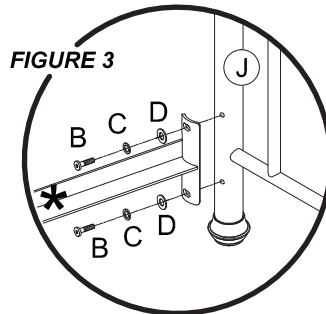

FIGURE 3
Attach each Leg Extension (I) to each post on Headboard Panel (G). Once in place, attach Bed Frame (*not included) to each extension using 2 Long Allen Bolts (A), 2 Metal Washers (D), 2 Spring Washers (C) & 2 Hex Nuts (E) per each side. Tighten all bolts only using Allen Wrench (F) provided. See **Figure 3**.
Attach Adapter Plate (I) to each Bed Post (H) using 2 Long Allen Bolts (A), 2 Spring Washers (C), 2 Flat Washers (D) & 2 Hex Nuts (E) per each side. Tighten all bolts and nuts. See **Figure 3**.
Attach Bed Frame or Trundle Panel (* Not included) to each post on Duo Panel (J), using 2 Short Allen Bolts (B), 2 Metal Washers (D) & 2 Spring Washers (C) per each side. Tighten all bolts only using Allen Wrench (F) provided. See Figure 3. The Assembly is now complete.